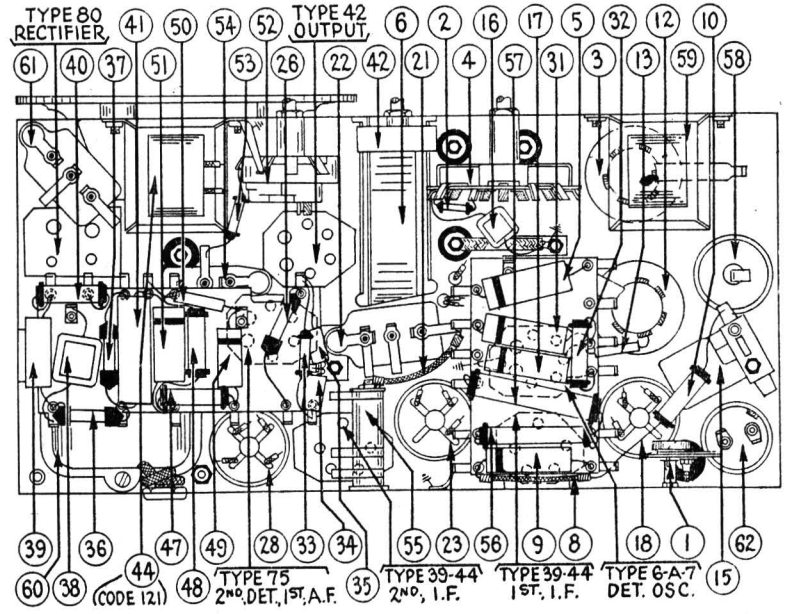

Fig. 4—Bottom View Showing Parts
ADJUSTMENT OF THE WAVE TRAP—Replace the grid clip upon the Detector-Oscillator tube (Type 6A7). Connect the output leads from the signal generator directly to the antenna and ground terminals of the receiver. Set the Wave-Band Switch of the receiver to the standard broadcast band (left hand position) and the Station Selector at the low frequency (540 K.C.) end. Adjust the Wave Trap condenser to give MINIMUM response to a 460 K.C. signal from the signal generator. The Wave Trap ① is located at rear and underneath the chassis, and is shown in Figure 4. It is reached from the rear of the chassis, by inserting the fibre wrench thru the hole near right-hand rear corner of chassis.
Finally set the signal generator at 600, tune in this signal and adjust the oscillator "L. F. condenser", located underneath chassis (④ in Fig. 4) to maximum reading. This adjustment is reached thru the hole in top of chassis, between the two electrolytic condensers (left hand end of chassis when facing rear).
*Does not appear in Fig. 4.